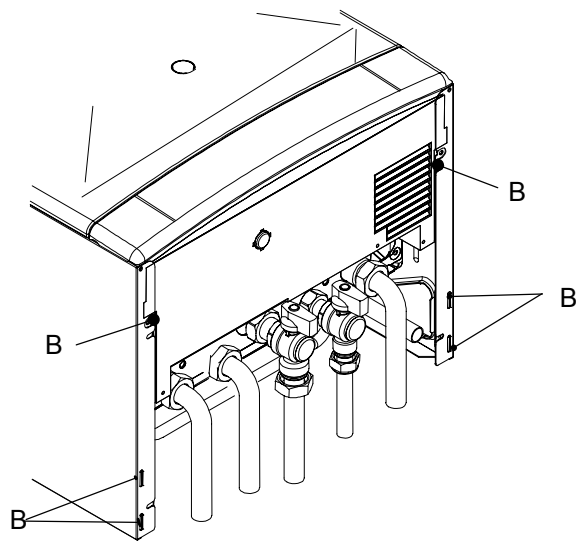

Fig. 8.2
- 1 Loosen the screws B. Bring the bottom of the panels away from the boiler and lift them, freeing them from the top hooks (Fig. 8.2).